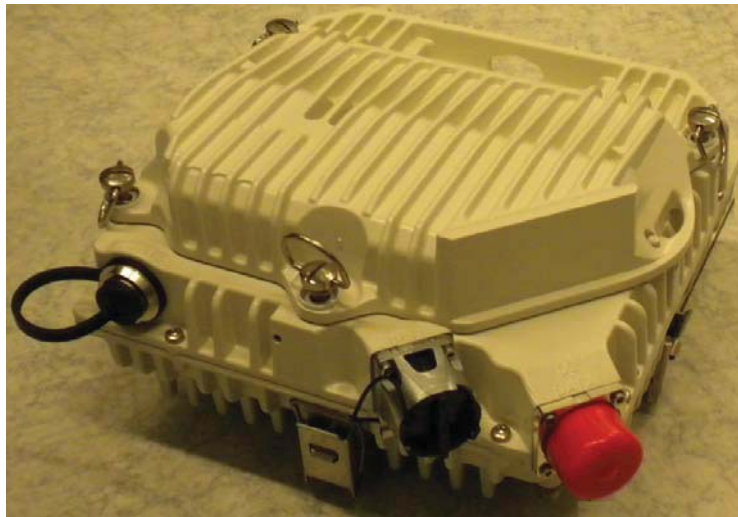

Figure 498. Views of MPT-HC V2 with embedded diplexer (6 GHz and 11-38 GHz)
- [1] with embedded diplexer for cost optimisation (**6 GHz and 11 GHz to 38 GHz**), shown in Figure 498., where the branching (diplexer) is internal to the MPT-HC V2 cabinet; this type of MPT-HC V2 is identified by one **Logistical Item** only;